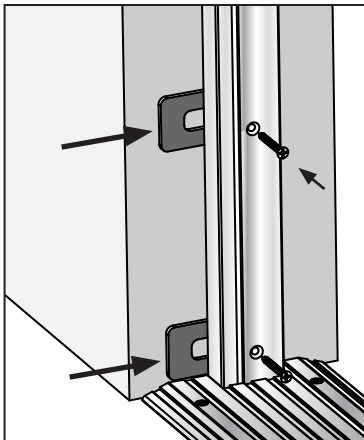

Fig. 8
4. Use 1/4" shims between jamb and wall to plumb frame and maintain a 1/4" gap. Shims should be placed so that they straddle each fastener to avoid dips in the jamb from over tightening. FIGURE 8.